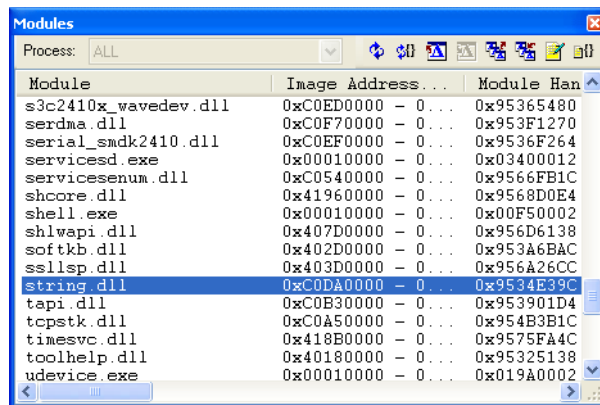

Figure 6-11 Modules window with loaded string driver
10. Open the Modules window after the image starts by pressing CTRL+ALT+U, or open the Debug menu in Visual Studio, point to Windows, and then select Modules. Verify that the system has loaded **string.dll**, as illustrated in Figure 6-11.